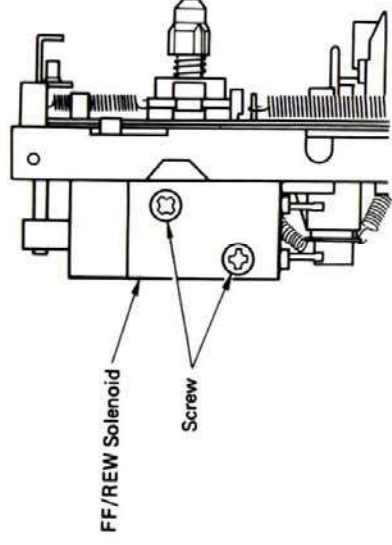

Fig. 12
- 7) To remove the FF/REW Solenoid, remove 2 screws shown in Fig. 12.